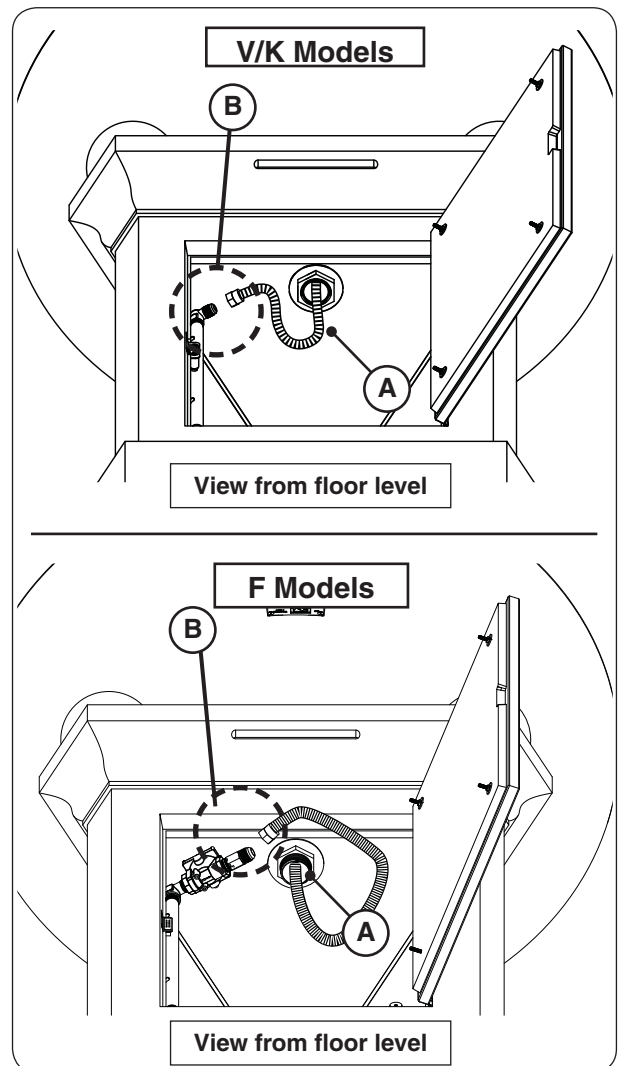

Fig. 28-1 Route flex & connect to pipe fitting
1. From above the fire bowl, route the flex connector (marked IN) that is coming off the valve assembly down through the center opening of the fire bowl (see Fig. 28-1, A).
3. From within the pedestal, connect the flex connector to the adapter/regulator found on the pipe extension (that is mounted to the interior wall of the pedestal). Tighten securely. See Fig. 28-1, B.